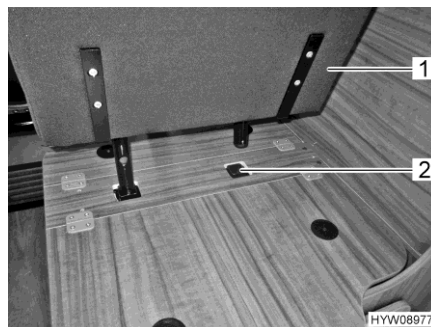

Fig. 24 Place the attachable seat in the holder
- Place the attachable seat (Fig. 24,1) in the holder (Fig. 24,2).